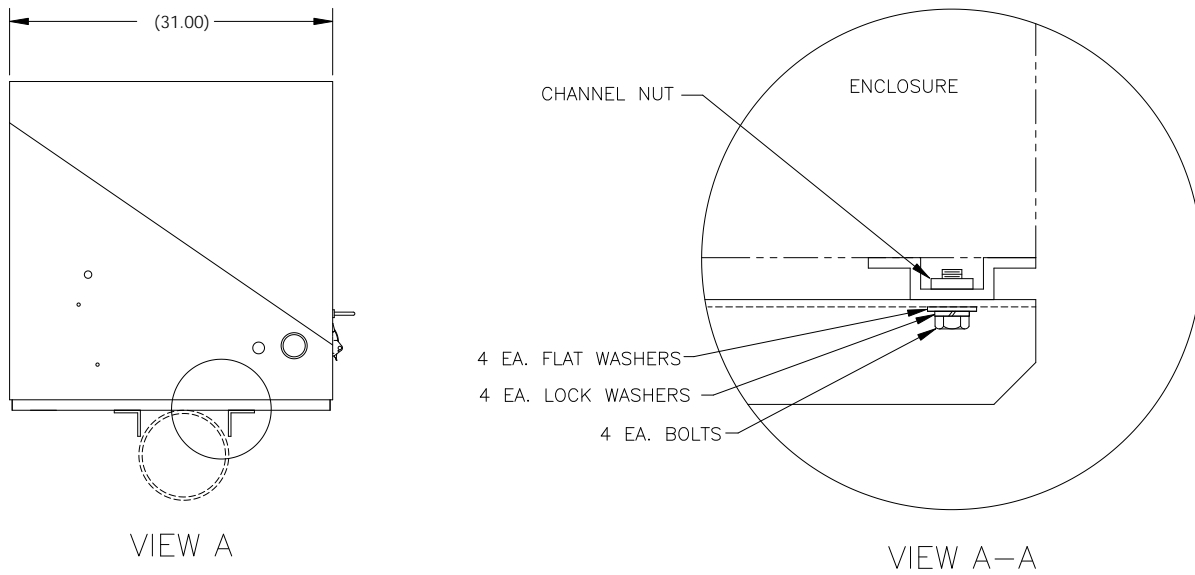

Figure 3-10 ENC82L-Mounting Hardware Installation
- 2) Place a split washer, then a flat washer on one of the 1 ¼" bolts (see Figure 3-10).